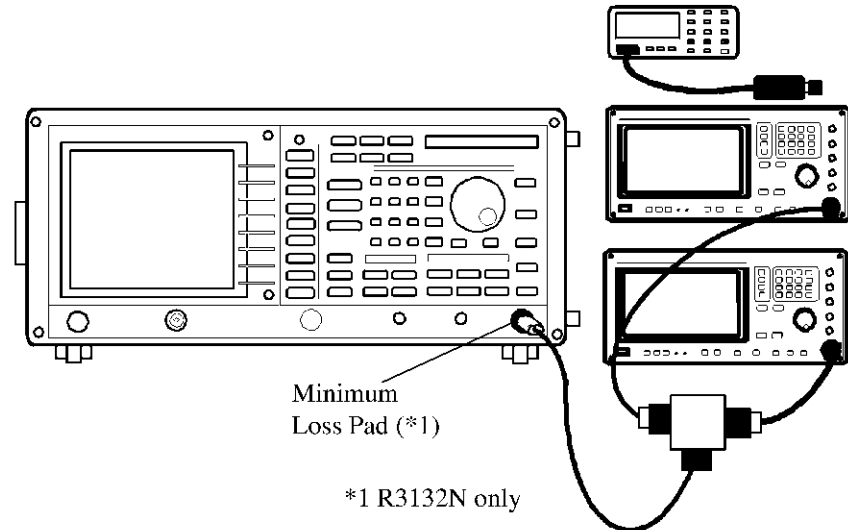

Figure 5-19 Setup of Gain Compression Test
3. Connect the signal generators as shown Figure 5-19.
13. Connect the signal generators as shown Figure 5-19.
23. Connect the signal generators as shown Figure 5-19.